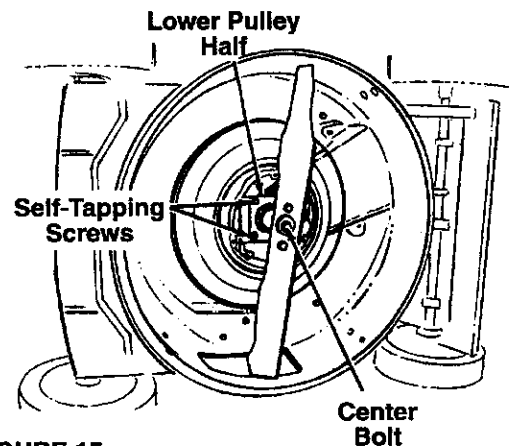
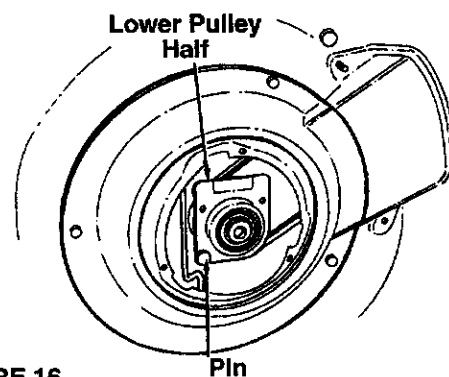

FIGURE 15.
FIGURE 16.
- Remove the center bolt which secures the blade to the crankshaft. See figure 15. Remove the blade and blade adapter.
- Remove the two-self-tapping screws which secure the lower pulley half. See figure 15. Rotate the lower pulley half 90° clockwise (see figure 16) and remove from the mower. Remove the belt from around the crankshaft.